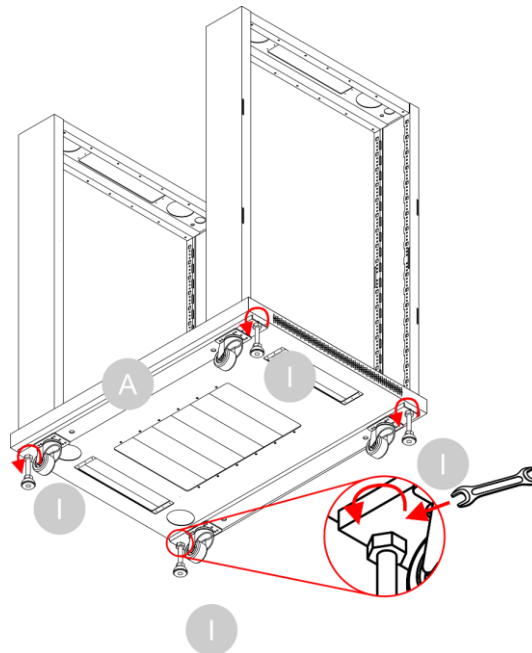

Fig. 24
- 07) Tighten the top nut of the **adjustable feet (I)** with a wrench, as shown in Fig. 24.